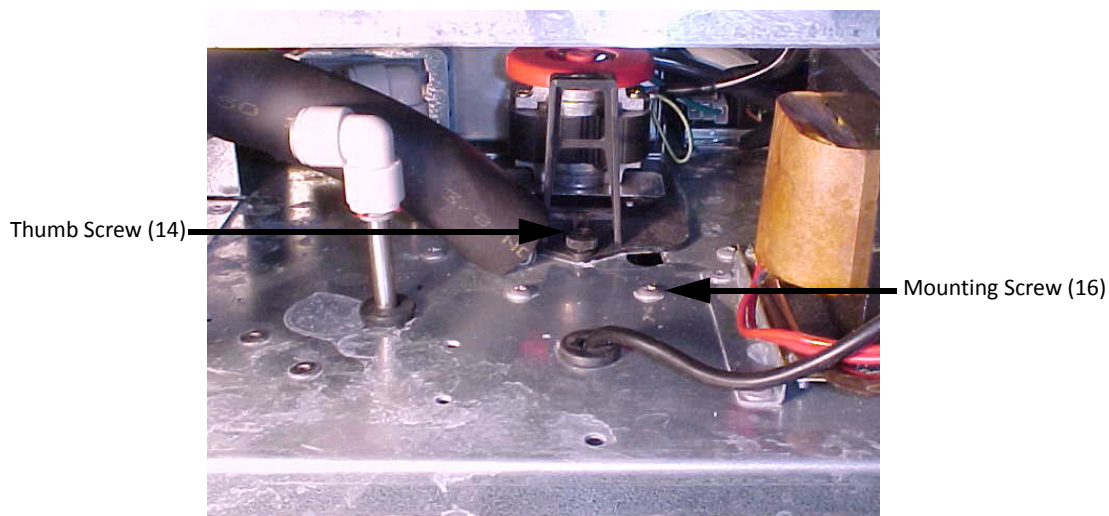

Figure 1.
10. Remove mounting screw shown in Figure 1. (item 16), and discard.